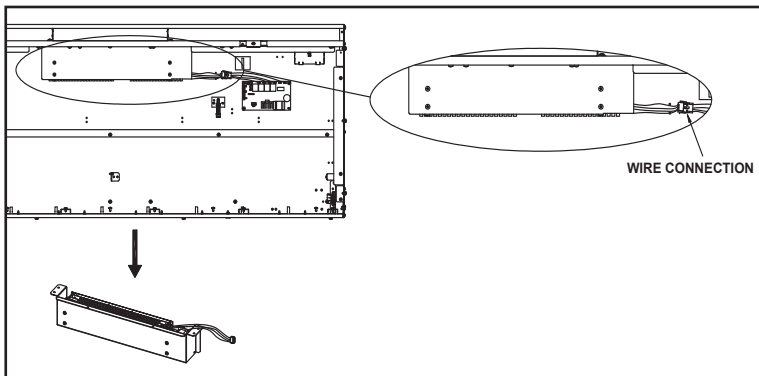

Figure 19 Unplug / Remove Heater Assembly
2. Unplug the wire connector. See Figure 19.